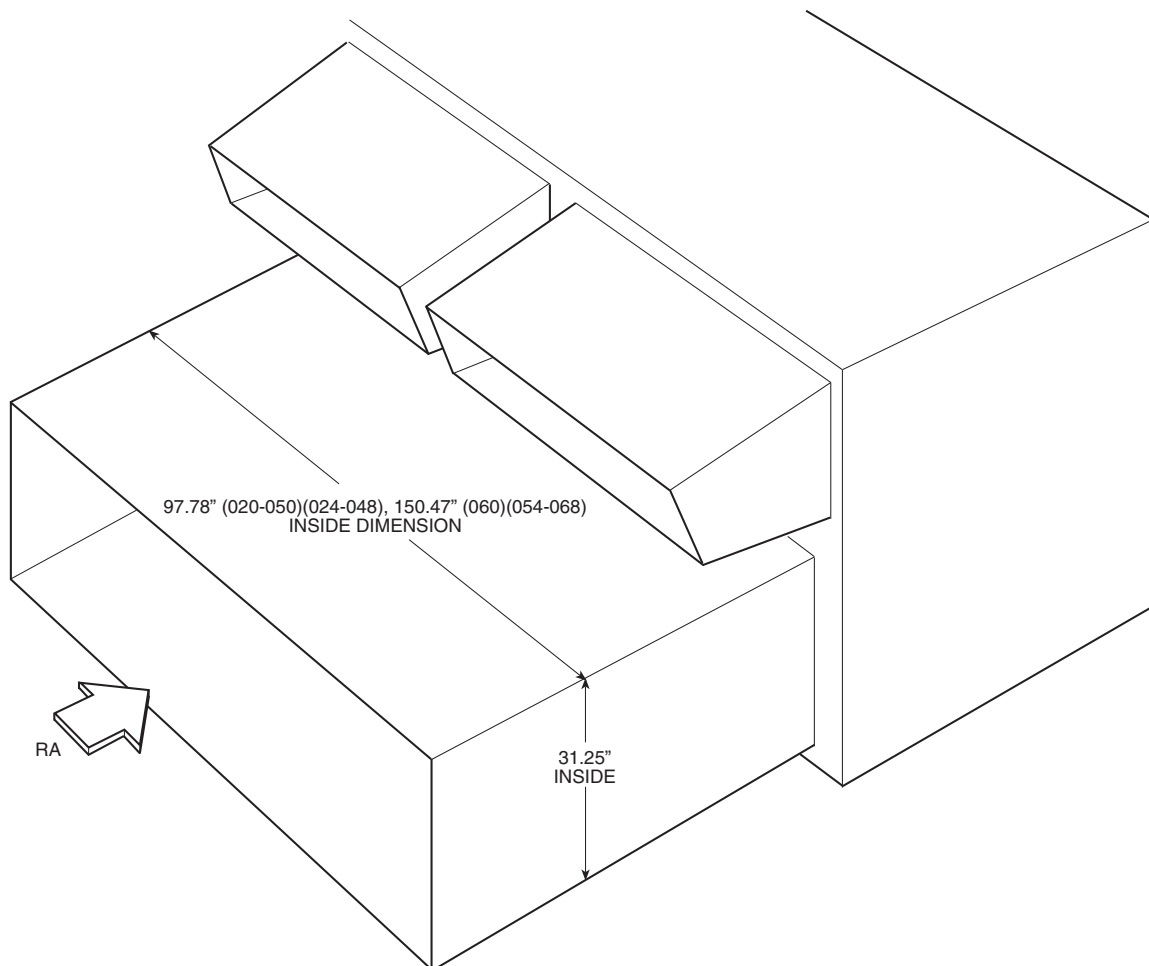

Fig. 54 — Side Return Air Conversion
3. Run the return air ductwork up to the openings. One single duct is recommended to connect to the unit over the return air openings. See Fig. 54. The return duct must incorporate a minimum $\frac{3}{4}$ -in. flange for connection to the unit cabinet. The unit does not have duct flanges for this conversion.